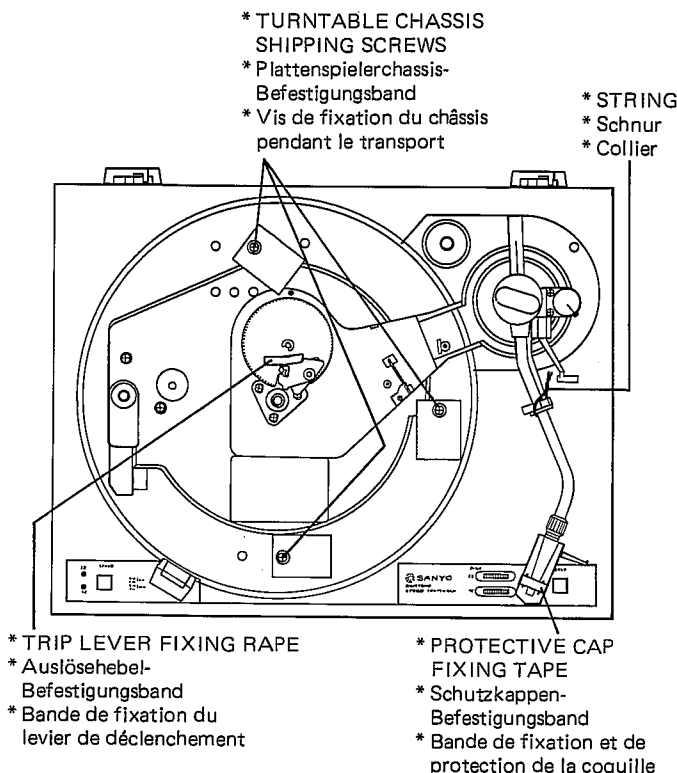

Fig. 1 / Abb. 1 / fig. 1
2. Remove the three screws which hold the turntable chassis in place during shipment. (Fig. 1)
3. Peel off the tape securing the trip lever. (Fig. 1)
6. Unfasten string or twist tab wire which secures the tone arm during shipping. (Fig. 1)
7. Peel off the tape securing the protective cap covering the cartridge stylus. (Fig. 1)